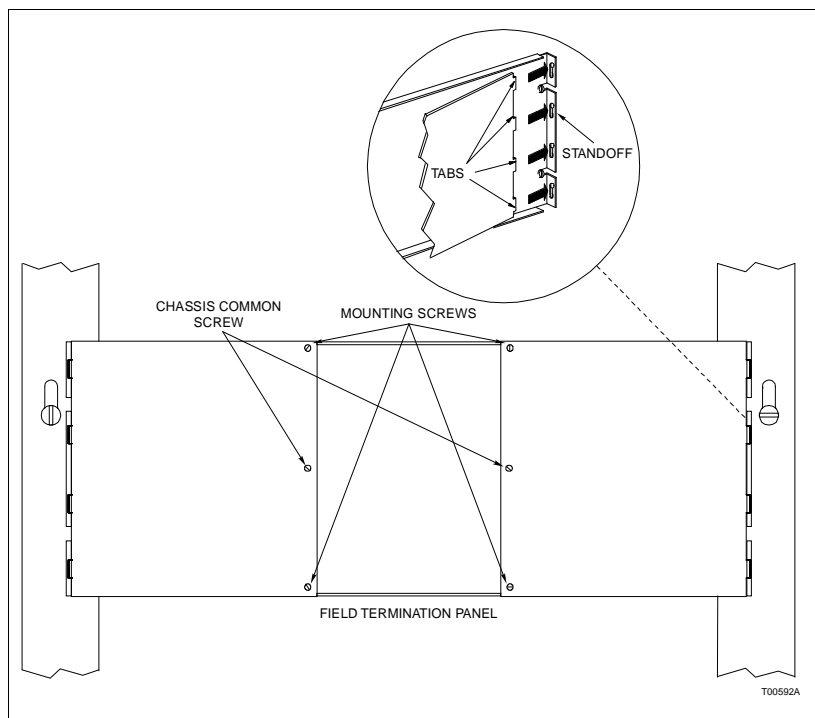

Figure 2-1. Mounting and Securing the TPL to the NFTP01
1. Insert the tabs of the circuit board into the proper slots of the termination panel standoff (see Figure 2-1) and slide the circuit board into position.
2. Secure the termination unit circuit board to the field termination panel with two - number ten machine screws (see Figure 2-1).
3. Connect the chassis ground by installing a number ten self tapping screw and external star washer in the location shown in Figure 2-1.
6. Insert the tabs of the replacement TU into the same slots of the termination panel standoff as shown in Figure 2-1 and slide the circuit board into position.